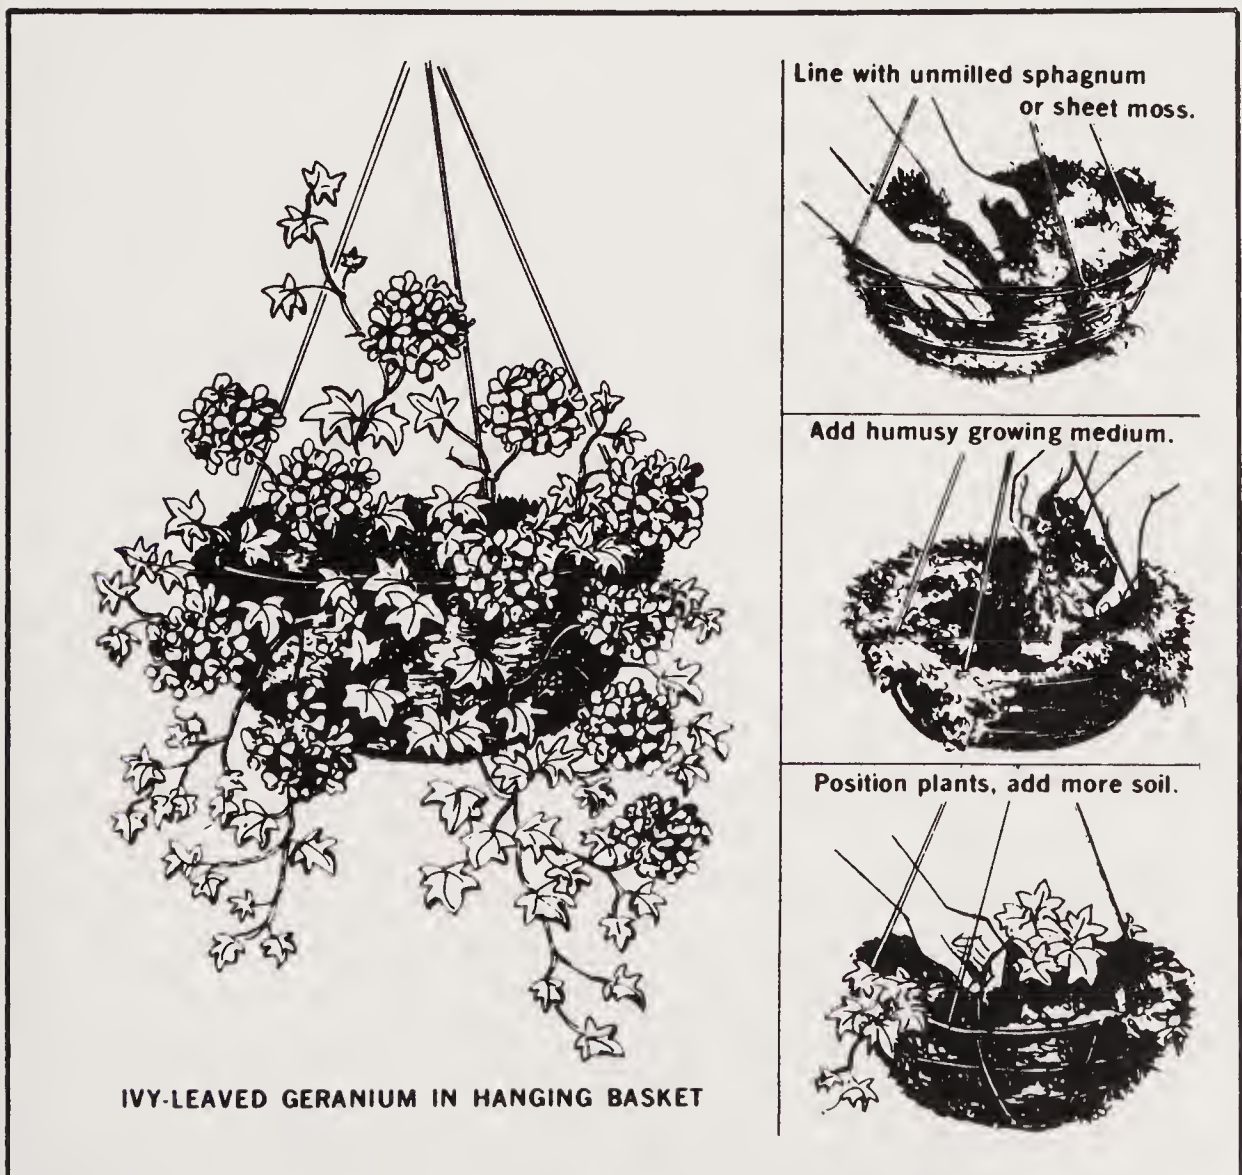

Fig. 3-2. Constructing a hanging basket (courtesy of Kathleen Bourke).
**Step Four.** Insert the plants. Have some directly in the top and others coming out of the sides. In this manner, the ultimate growth of your plants will give you a fully uniform basketful (Fig. 3-2).